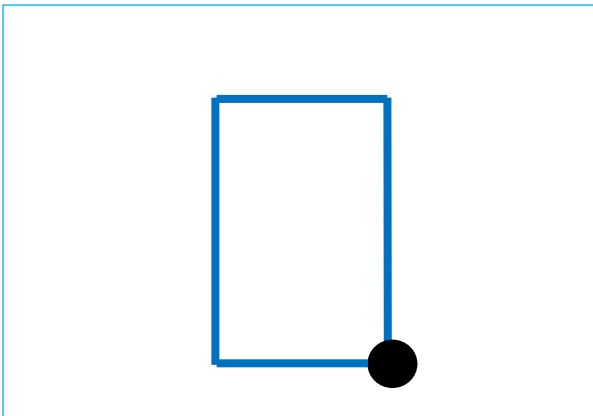

Figure 5 – Pipe loop
- Pipe loop: A pipe that begins and ends at the same point. See Figure 5.